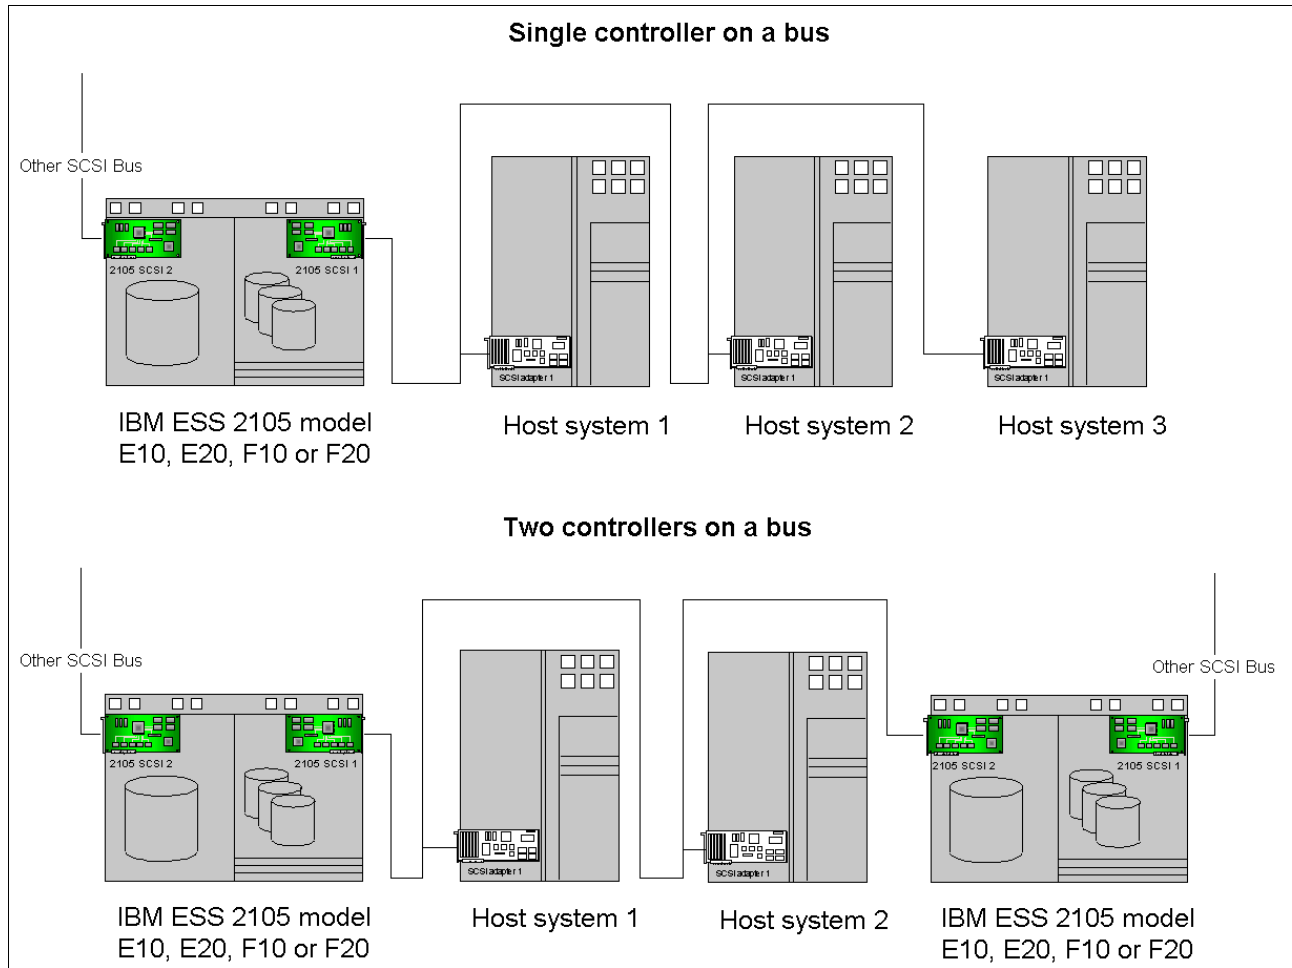
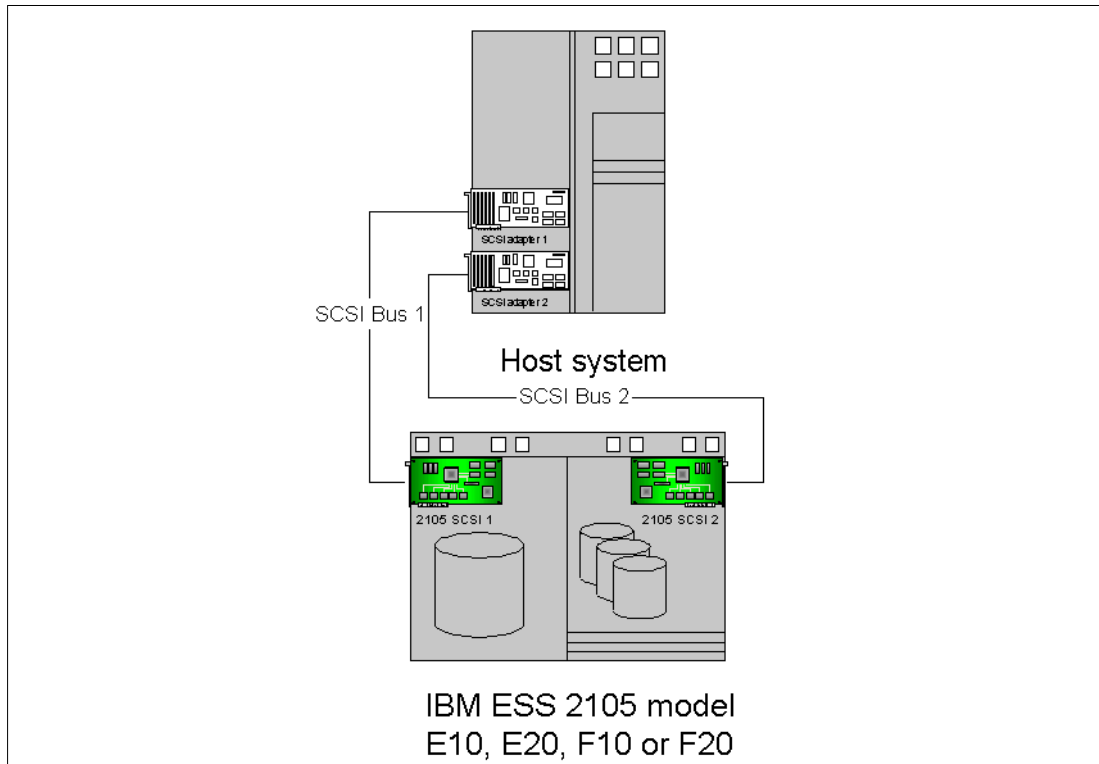

Figure 9-2 Examples of ESS SCSI host interconnections
Figure 9-3 Example of multiple SCSI connections
SCSI devices attached to the ESS might be initiators (hosts) or target devices. The ESS supports a maximum of four SCSI target devices on any wide SCSI bus. IBM recommends that you use only one SCSI initiator per SCSI bus on an ESS. The number of SCSI devices that the ESS controller uses on the bus is determined by the number of targets specified in the logical configuration for that bus. The SCSI adapter card in the ESS operates in target-only mode. Figure 9-2 and Figure 9-3 show examples of possible ESS SCSI connections.
- ▶ You cannot use the configuration in Figure 9-2 for the AS/400 and iSeries. See *Host Systems Attachment Guide 2105 Models E10, E20, F10 and F20, SC26-7296*, for information about how to configure an AS/400 and iSeries. You can find this documentation at: